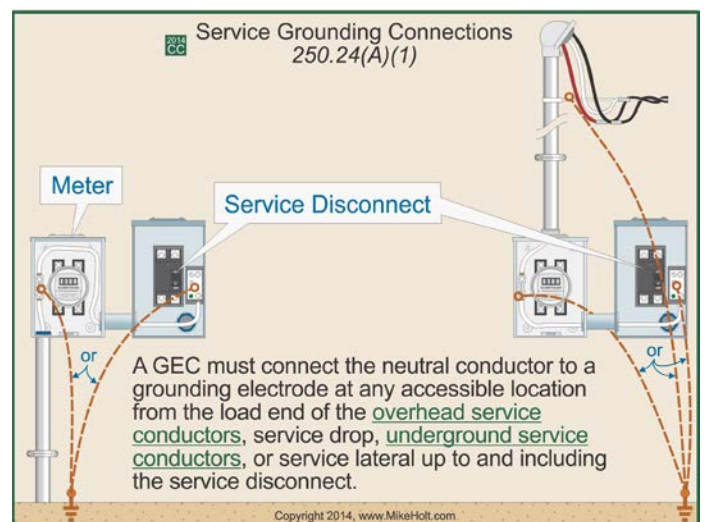

Figure 250–45
(1) Grounding Location. A grounding electrode conductor must connect the service neutral conductor to the grounding electrode at any accessible location, from the load end of the overhead service conductors, service drop, underground service conductors, or service lateral, up to and including the service disconnecting means. **Figure 250–45**